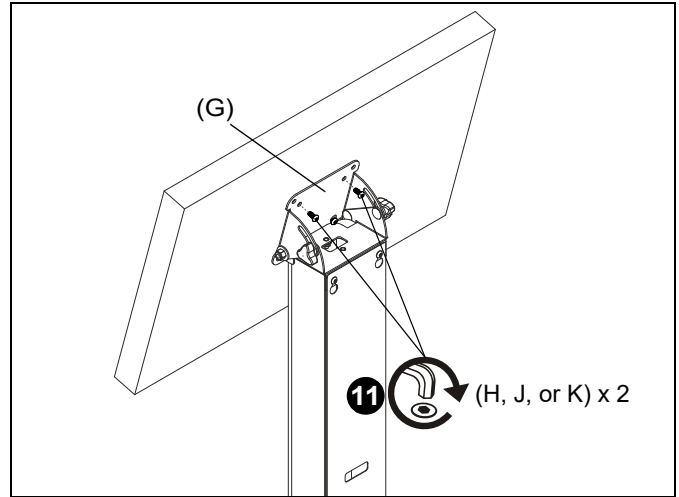

Figure 6
11. Use two selected screws (H, J or K) to secure table to VESA adapter (G). (See Figure 6)